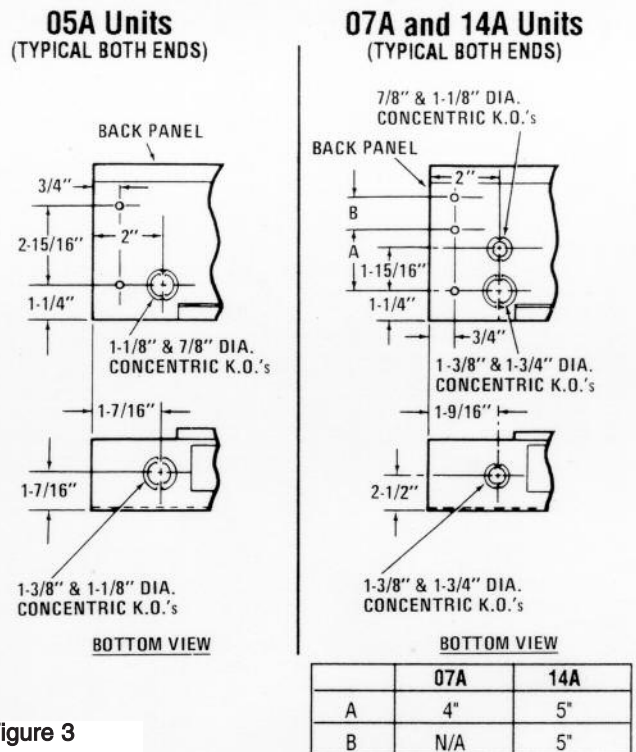

Figure 3
2. Remove appropriate electrical knockout from either junction box. See Figure 3 for location of knockouts.
2. Refer to wiring diagram for power supply entry and remove appropriate electrical knockout (Figure 3) from the heater in which power supply connections are to be made. The power supply may be brought in to the end of only one heater and the remaining heaters may be connected in parallel using the wireway. Use Table B to size the field installed wiring in the wireway.